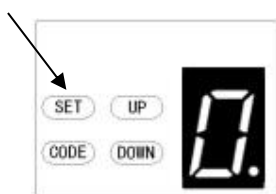

Figure 3
b) Press the SET Button it will display the status that you choose.(Fig.3)